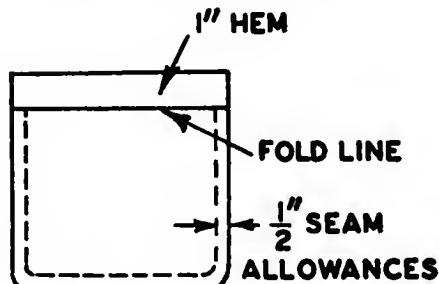

Fig. 144. Cutting the pocket.
D. Cut the pocket of wool the desired shape plus a  $\frac{1}{2}$ -in. seam allowance on three sides and a 1-in. hem at the top. It should match the grain and pattern of the garment area unless cut for contrast (Fig. 144).